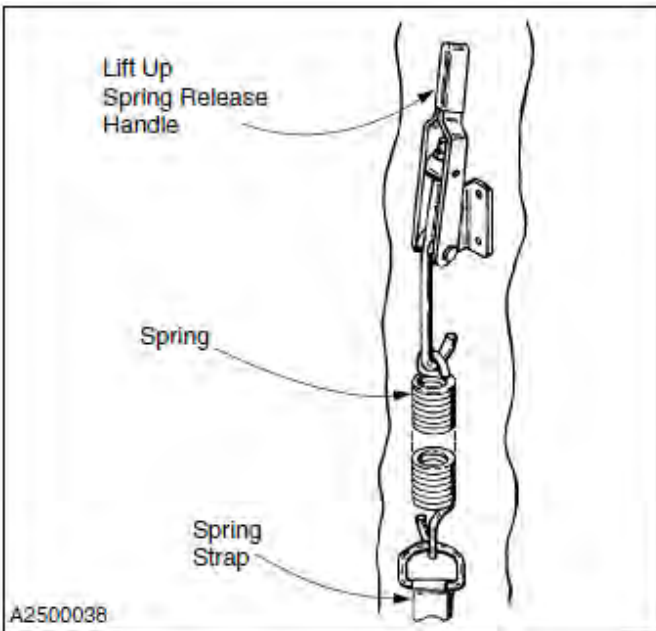

Figure 35
5. Inspect each spring strap for wear and tear, and frayed edges. (See Figure 35.) Replace if required. (See "SPRING STRAP REPLACEMENT" on Page 29.)